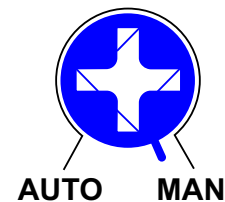

Figure 18. Auto/Man Dial
1. Set the **AUTO/MAN** dial (Figure 18) to the **MAN** position. This controls the reset function only. It does not affect the ability of the pump to run with or without float switches.